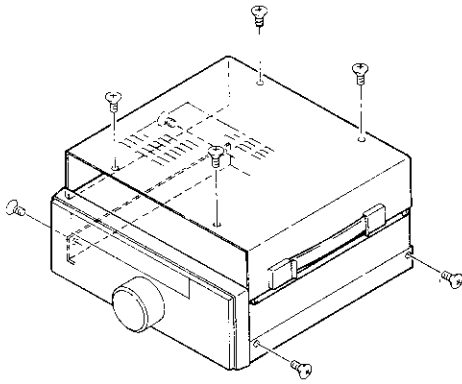

Fig. 1
1. Remove the top cover of the transceiver.(Fig. 1)